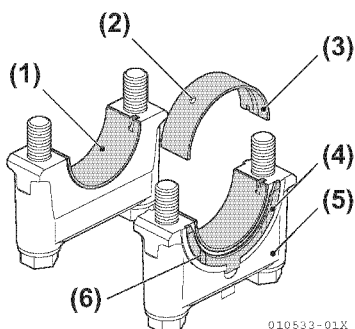

Figure 5-54
51. Remove the main bearing cap and lower main bearing (Figure 5-54).